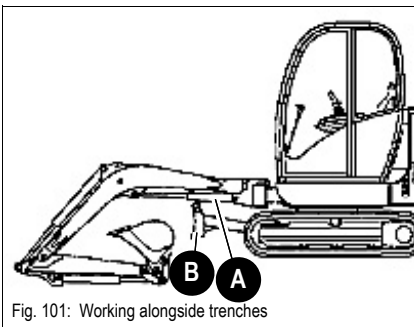

Fig. 101: Working alongside trenches
- ☞ Make sure stabiliser blade **B** never touches piston rod **A** (Fig. 101).